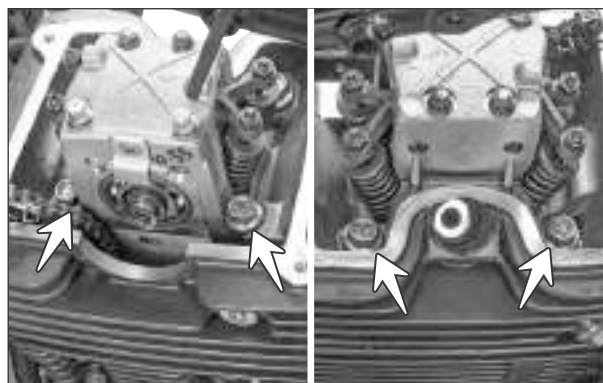

Fig. 3.41
- 1 Remove the bolt cylinder head (4 nos.) from the mounting of cylinder head complete. (Fig. 3.41)